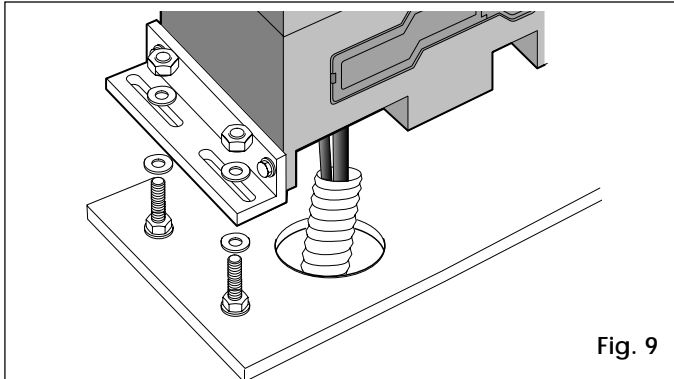
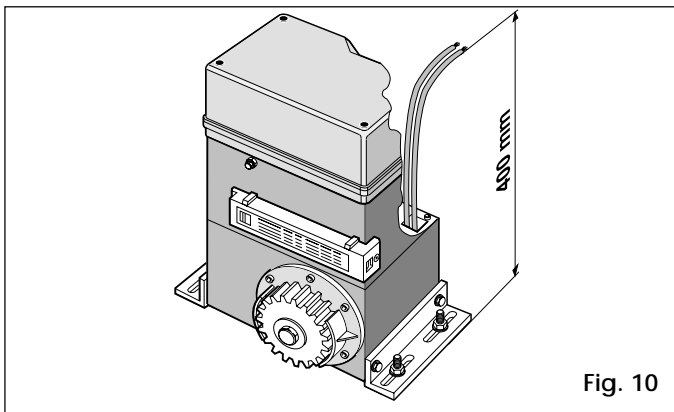

Fig. 9
Fig. 10
- 3) Fix the operator to the base plate using the nuts and washers supplied (Fig. 9). During this operation, route the cables through the conduit in the lower half of the operator (Fig. 10). To access the electronic equipment, route the cables through the holes provided using the grommets supplied.